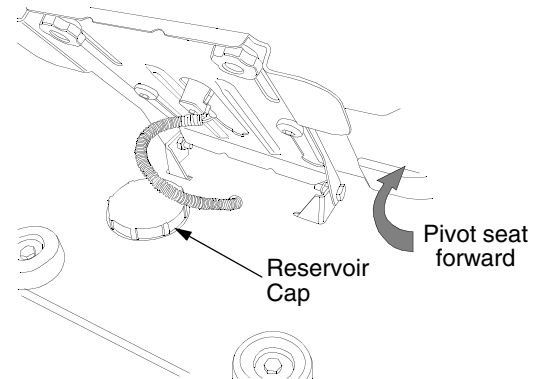

Figure 21
- Clean the reservoir cap and the area around the cap to prevent debris from contaminating the transmission oil. Refer to Figure 21.